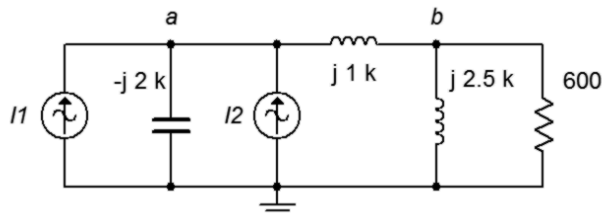

Figure 4.17
27. For the circuit of Figure 4.17, determine the current through the capacitor. $I_1 = 10E-3\angle 0^\circ$ A and $I_2 = 3E-3\angle 90^\circ$ A.
28. For the circuit of Figure 4.17, determine voltages v_a and v_b . $I_1 = 10E-3\angle 0^\circ$ A and $I_2 = 3E-3\angle 90^\circ$ A.